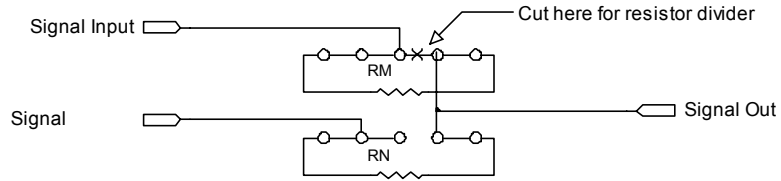

Figure 5.
To configure a current input, place a resistor in the location on the termination board corresponding to the input pin being reconfigured. Figure 5 and Table 2 show resistor placement. The appropriate size for this resistor can be calculated using Ohm's law, given the maximum input current and the input voltage range of the Data Acquisition Processor.
Once this trace is cut, the resistors for the voltage divider are soldered into place. The resistor on the ground side of the divider is placed in an even numbered resistor location and the resistor on the input signal side of the divider is placed in an odd numbered resistor location. Figure 5 and Table 2 illustrate resistor placement for each input.
** The first resistor is on the ground side of the voltage divider (RN), the second is on the input signal side (RM), as shown in the previous diagram. For example, R2 is RN and R1 is RM. Figure 5 shows the resistor placement.
Table 2 and Figure 5 can be used to locate the appropriate resistors when using either the current input or voltage division configuration. Figure 5 shows schematically how the inputs and grounds on the termination board are connected.